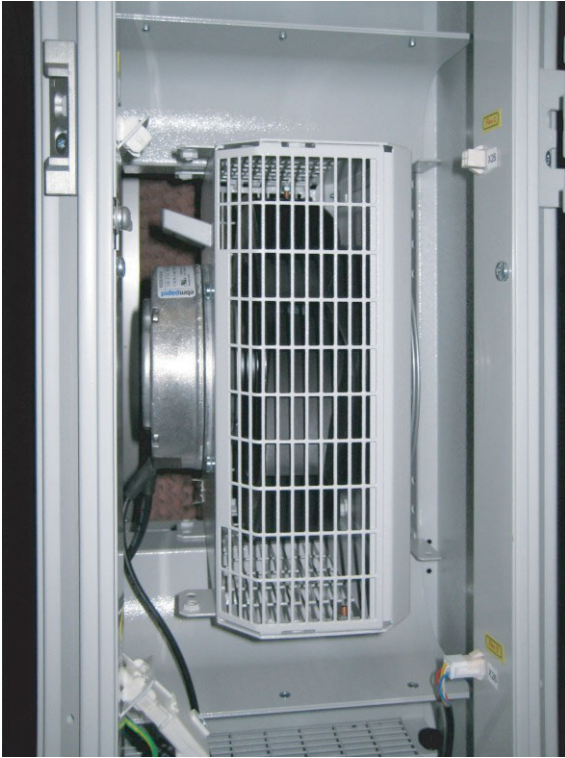

Fig. 42: Rotated fan module in fan tray
- Rotate the fan module in the rack in a clockwise direction by 90° (fig. 42).